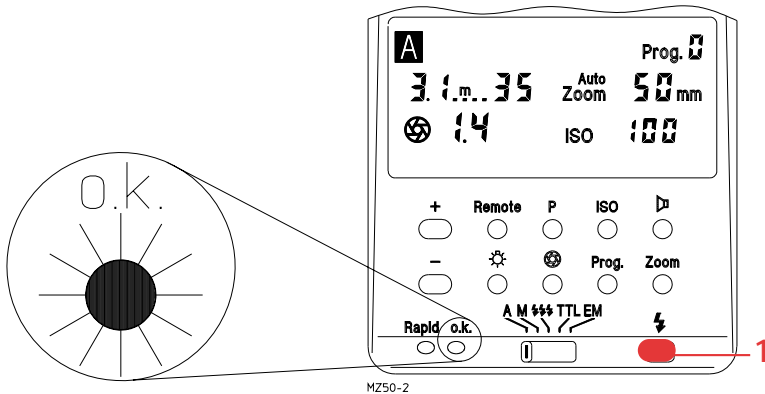

Fig. 22: Exposure o.k.
1 The test flash is triggered with the manual firing button (35) on the control unit (fig. 22).